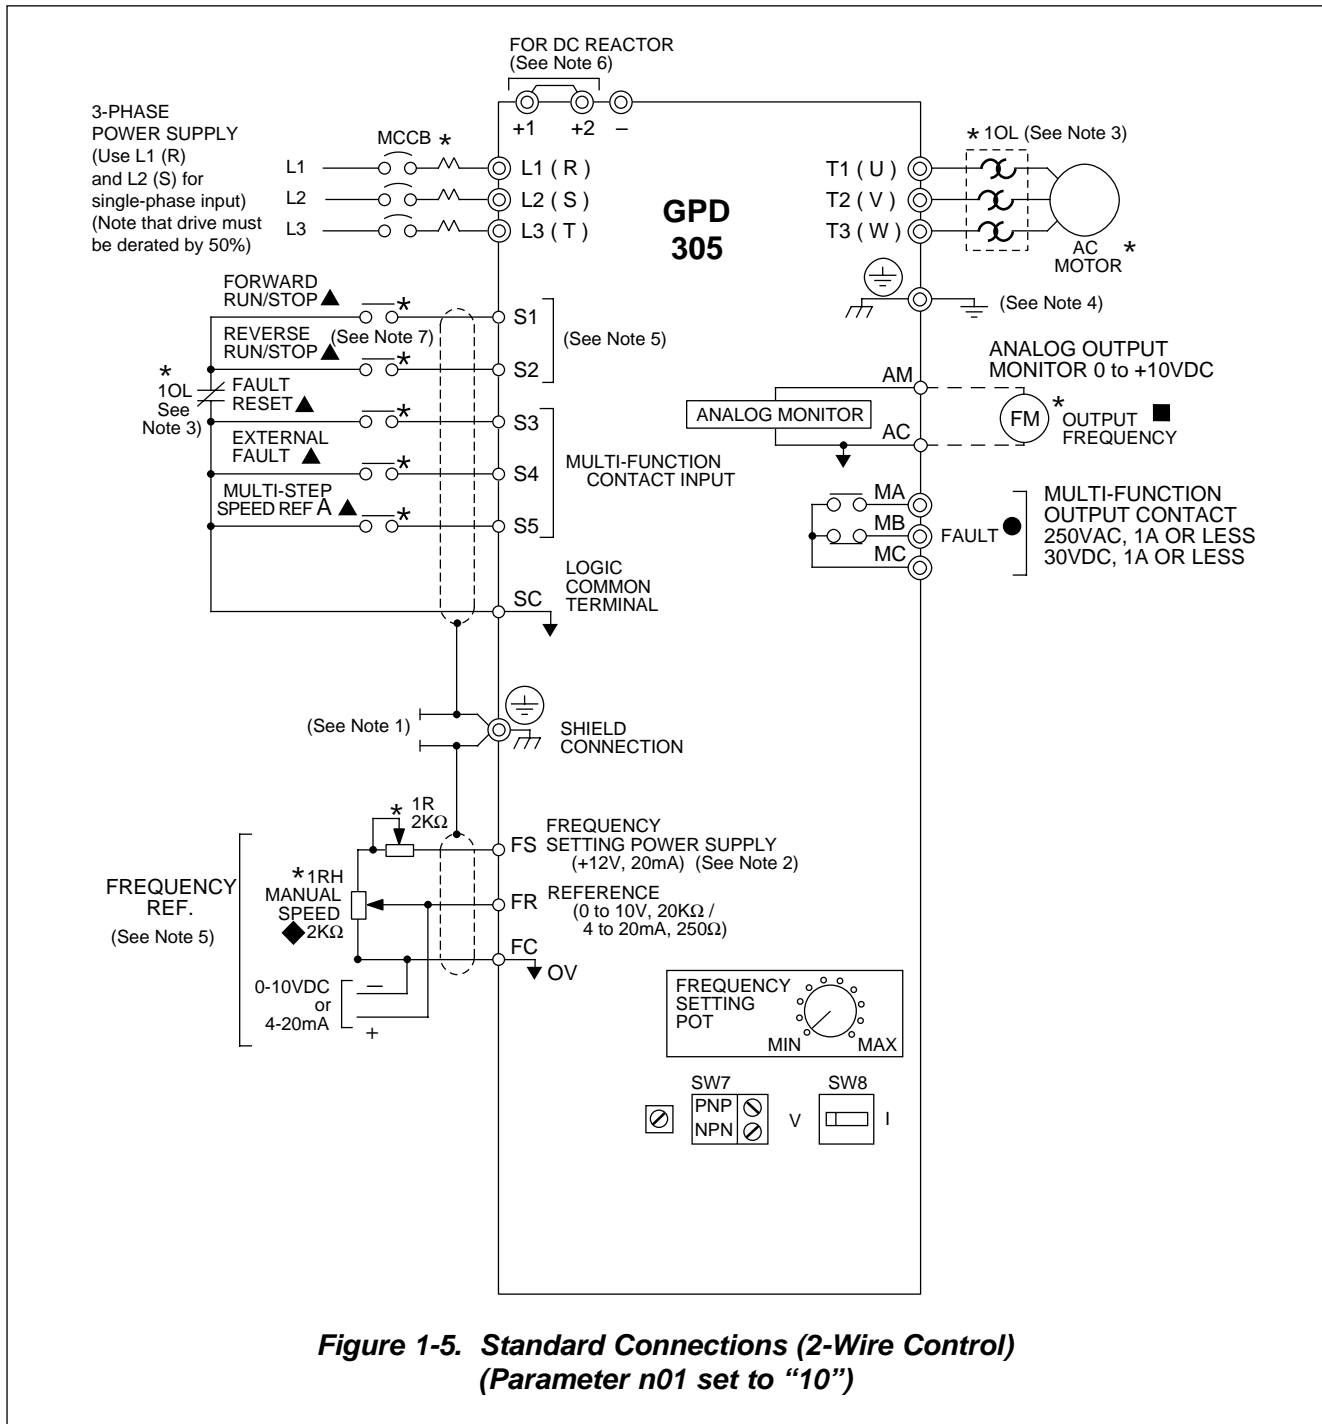

Figure 1-5. Standard Connections (2-Wire Control) (Parameter n01 set to "10")
- Interconnections for external two-wire control in combination with the Digital Operator are shown in Figure 1-5 (for 230V or 460V rated drives).
NOTES FOR FIGURE 1-5